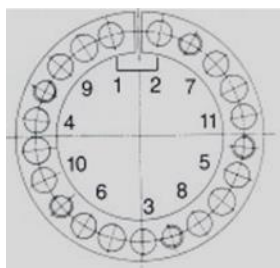

Figure 8.3: Screws tightening sequence
4. Using a torque wrench, tighten the bolts evenly and crosswise, as shown in Figure 8.3, by taking several steps with tightening torque escalation.